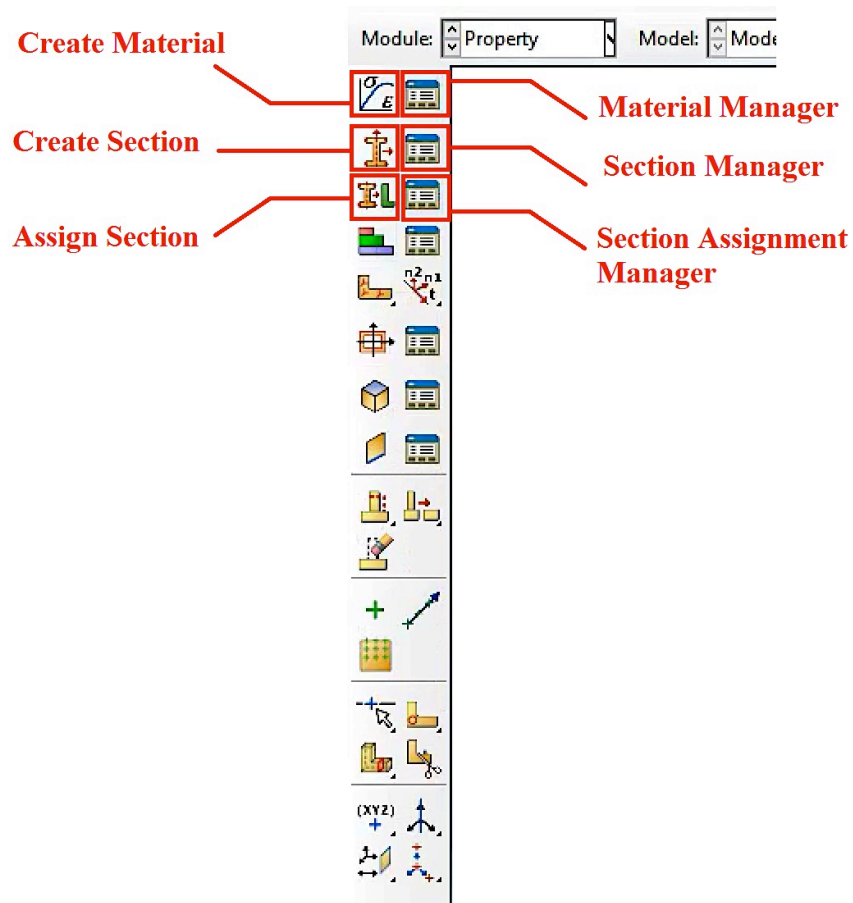

Figure 9 The Functional tools in Property module
- Select **Property** module from Module List on the context bar. The most functional tools of this module are demonstrated in Figure 9.